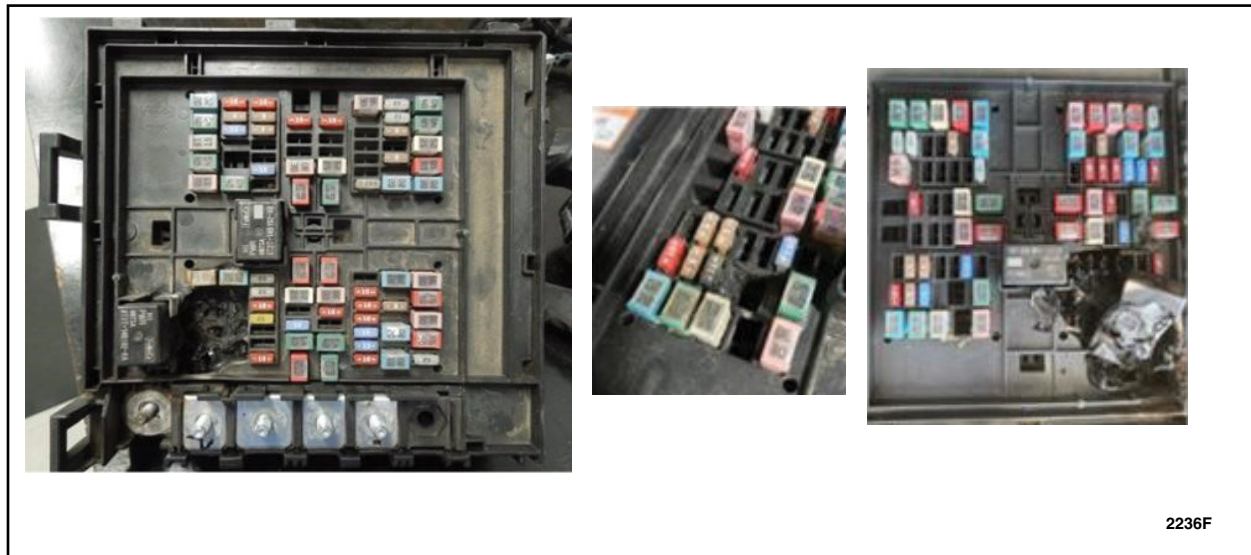

FIGURE 5
5. Remove covers and inspect BJB. Is there any evidence of melted fuse(s), melted relay(s), or melted plastic in the BJB? See Figure 5.